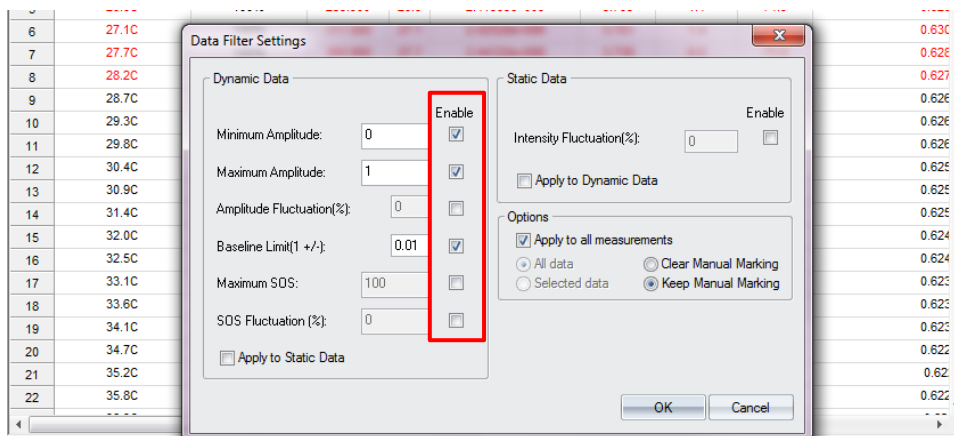

Figure 7: You can de-select the checked boxes to view any data that may have been filtered out.
- 2) Deselect the filter parameters (Figure 7). You can then view any measurement that was filtered out. It is recommended to use the **Minimum Amplitude**, **Maximum Amplitude** and **Baseline Limit** criteria only to filter out measurements using the default values of 0, 1, and 0.01, respectively. Filtering using SOS criteria may filter measurements that are multimodal as the *Cumulants* fit will fail to provide a good fit of the autocorrelation function.